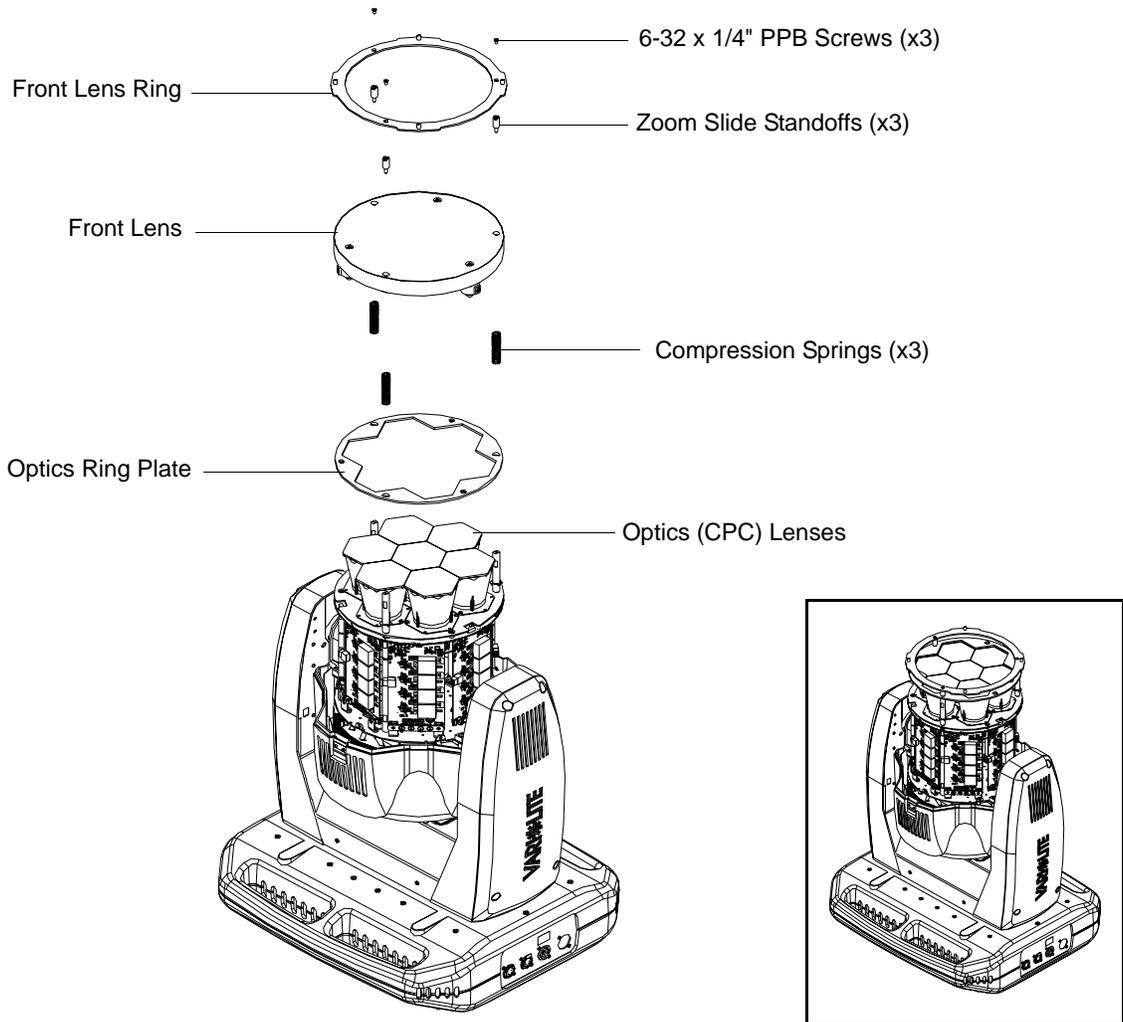

Figure 2-34: Front Lens Removal
Step 6. At head assembly, as shown in Figure 2-34, remove front lens assembly as follows: